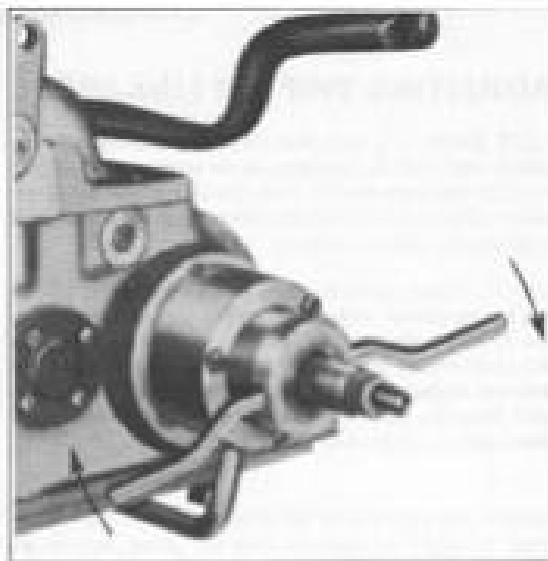

Figure 4-11. Pulling Oil Seal
Turn actuating screw (A) into body and continue turning as shown in Figure 4-11 until oil seal is free. Discard oil seal and oil seal cork washer found behind seal.